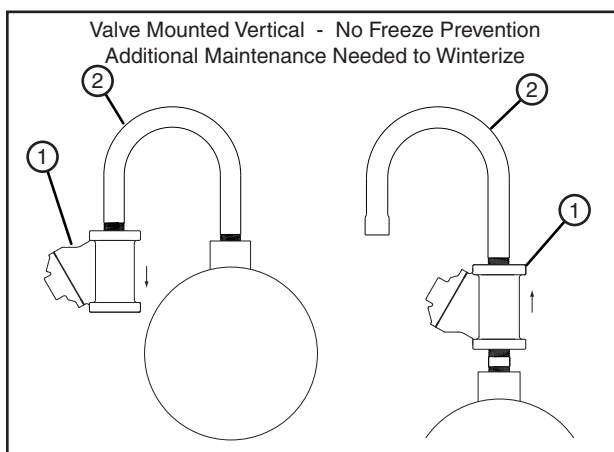

Figure 60-3 1. Aquamatic Valve
- Other plumbing configurations that might be used in regions where the temperature during the winter months stays above 40°F (4°C) are shown in Figure 60-3.
- The valve is mounted vertically which does not allow water to drain out of the valve or U-pipe. If temperatures drops below 40°F (4°C), turn the VRI option OFF and run the machine with water, this opens the valves (which can be visually inspected) to drain water and reduce the possibility of damage due to freezing. Refer to Figure 60-3.